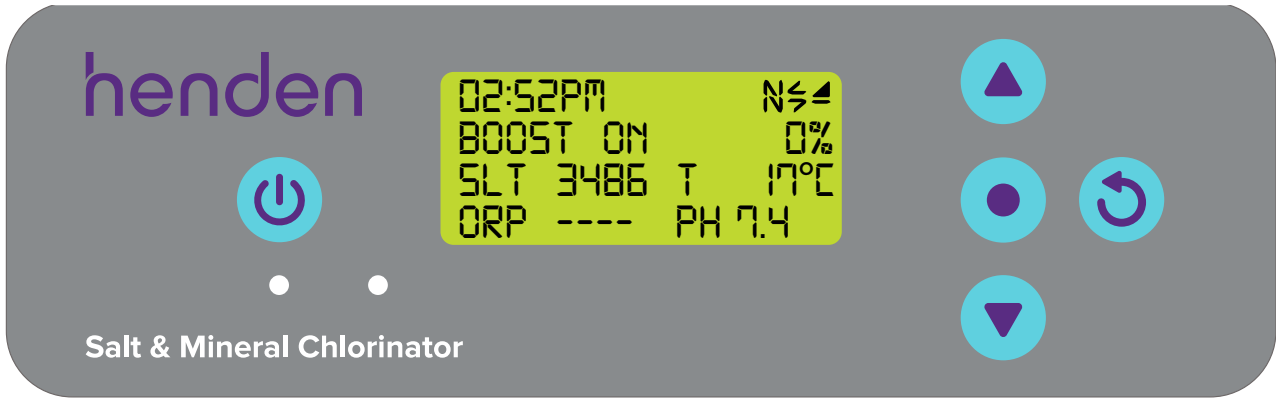

Figure 9.44
- Once back at the HOME SCREEN the display will toggle to show BOOST ON (refer Figure 9.44).